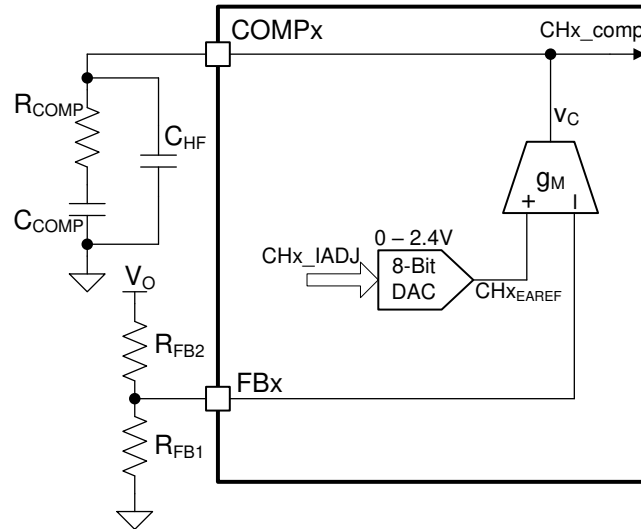

图 8-9. Proportional Integral Compensator
The feedback transfer function includes the voltage divider gain ($H_{FB} = R_{FB1} / (R_{FB1} + R_{FB2})$) and the transconductance amplifier gain. A compensation network at the output of the error amplifier is used to configure loop gain and phase characteristics. In CV BOOST application, a Proportional-Integral (PI) compensation is recommended. A network of R_{COMP} , C_{COMP} , and C_{HF} , shown in 图 8-9, can be used to implement PI compensation to create a pole at the origin, a low-frequency zero, and a high-frequency pole.